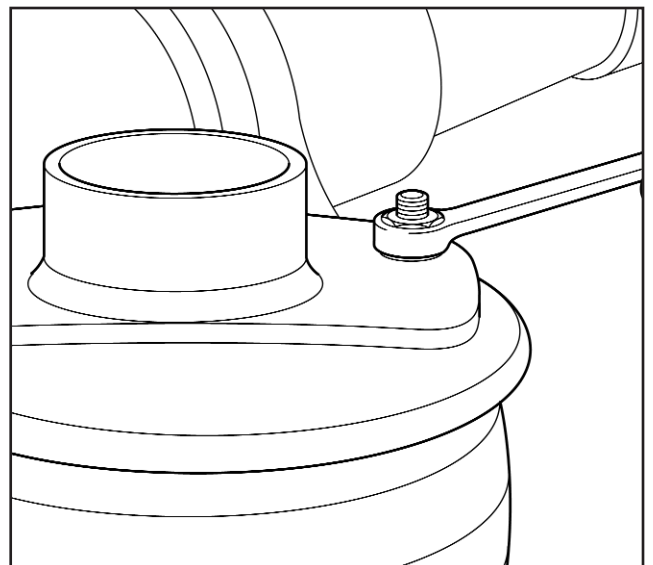
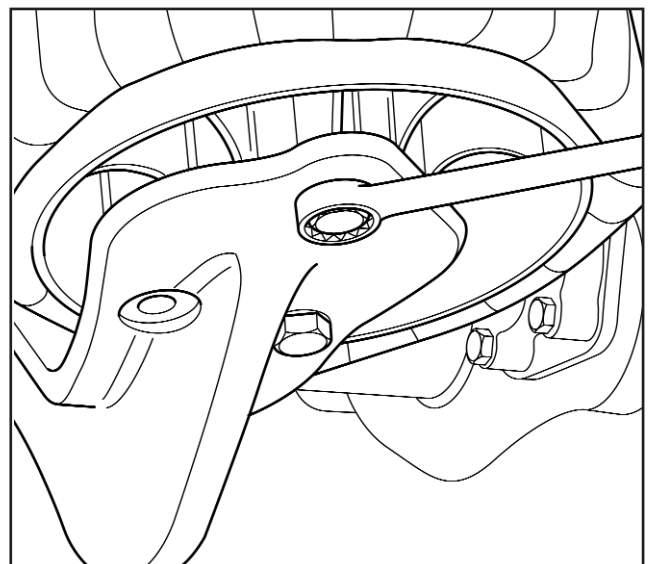

Fig 4.3
Fig 4.4
3. Using a 19mm spanner remove the M12 nuts from the top of the air spring (Figure 4.3) and the two M12 bolts and washers securing the airspring piston to the trailing arm (Fig 4.4).